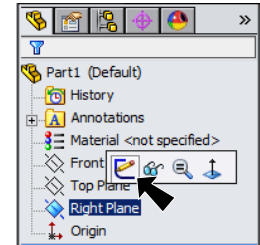

Fig. 1
Step 2. Click **Right Plane**  in the Feature Manager and click **Sketch**  on the Context toolbar, **Fig. 1**.